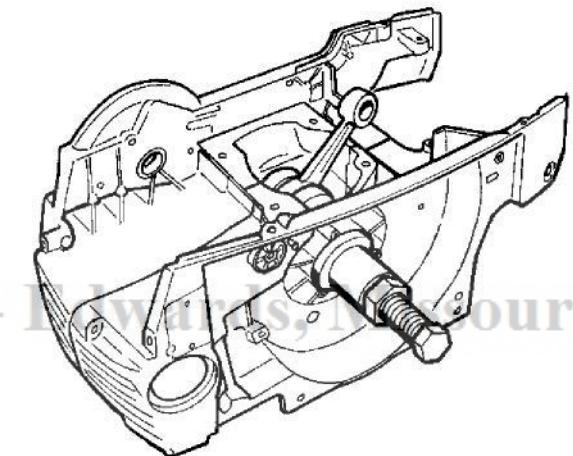

Fig. 13
- Use tool 502 50 30-14 and pull on the flywheel side crankcase half. Pull until the gasket is clamped between the two halves. See fig. 13.